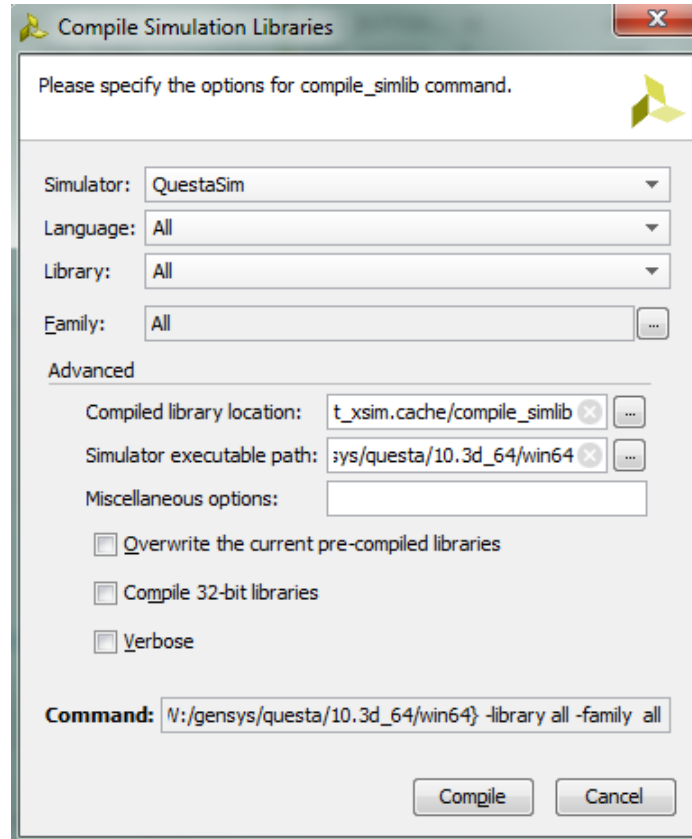

Figure 8-2: Compile Simulation Libraries Dialog Box
1. In the **Tools**, click **Compile Simulation Libraries** to open the dialog box shown in Figure 8-2.
TIP: At the bottom of the *Compile Simulation Libraries* dialog box, there is a field labeled *Command* (shown in Figure 8-2, above). The value of the *Command* field changes based on the options you select. You can use the value of the *Command* field to generate a simulation library in *Tcl/non-project* mode.